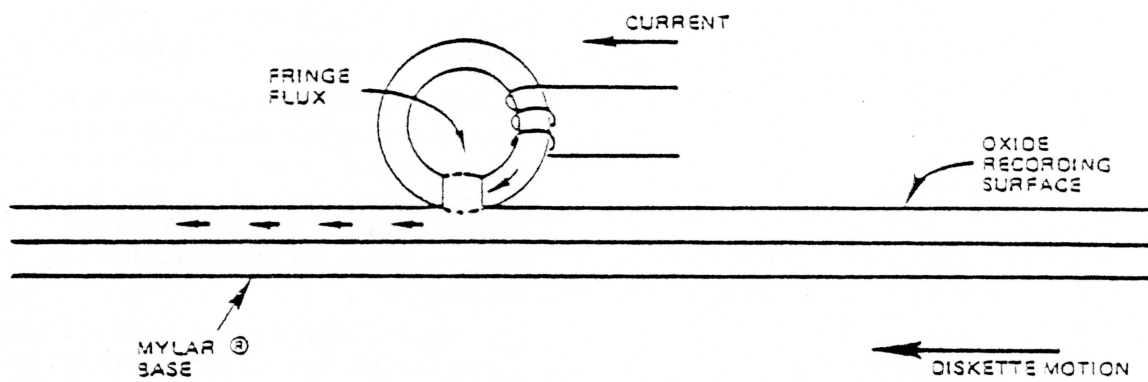

FIGURE 19. BASIC READ/WRITE HEAD
7.2 The read/write head is a ring with a gap and a coil wound some point on the ring. When current flows through the coil, the flux induced in the ring fringes at the gap. As the diskette recording surface passes by the gap, the fringe flux magnetizes the surface in a longitudinal direction. See Figure 19.